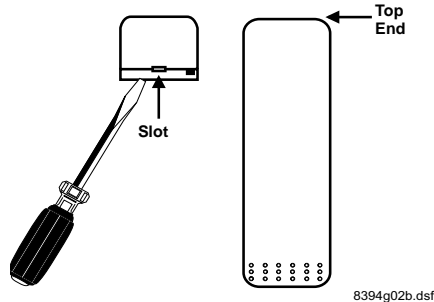

Figure 5. Remove the sensor cover
1. Insert a slotted screwdriver into the slot at the top end of the unit and remove the cover (see Figure 5).